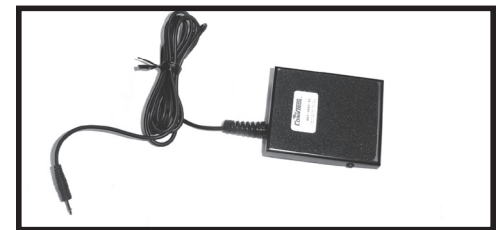

Figure 2
The optional footswitch* allows you to easily toggle between either Merlin or computer viewing mode (see *Figure 2*).
- Make sure the two parts of the power supply cord are securely connected (*see page 10, Figure 2*).
- Check that Merlin LCD has power. If not, see item 1, above.